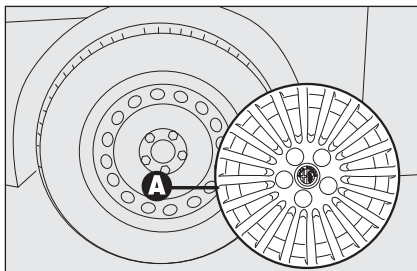

fig. 6
- Remove the wheel cap **A-fig. 6** (only versions with steel rims);